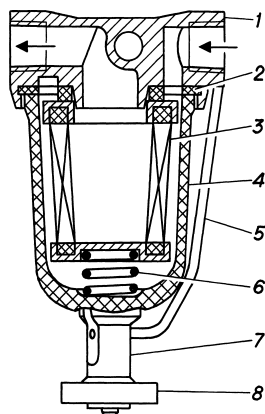

Fig. 13.2. **Fine fuel filter:**
**Fine fuel filter** (fig. 13.2) is installed before the carburetor.